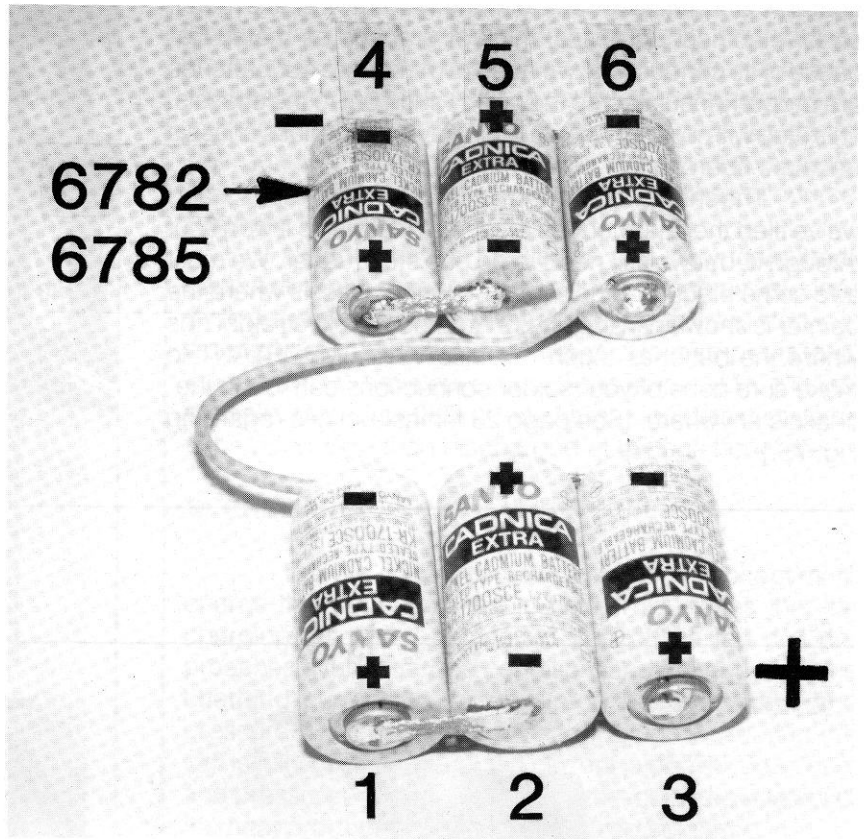

Fig. 73
□ Figs. 73 & 74— BATTERIES. Associated sells standard Sanyo single cell batteries and Reedy matched 6- or 7-cell battery packs in three different grades. The Reedy batteries have been used to win four IFMAR World Championships. There are none better.
Now solder all the rest of the cells together in the exact way as shown in Figs. 73 and 74. Do not solder the long wire yet.